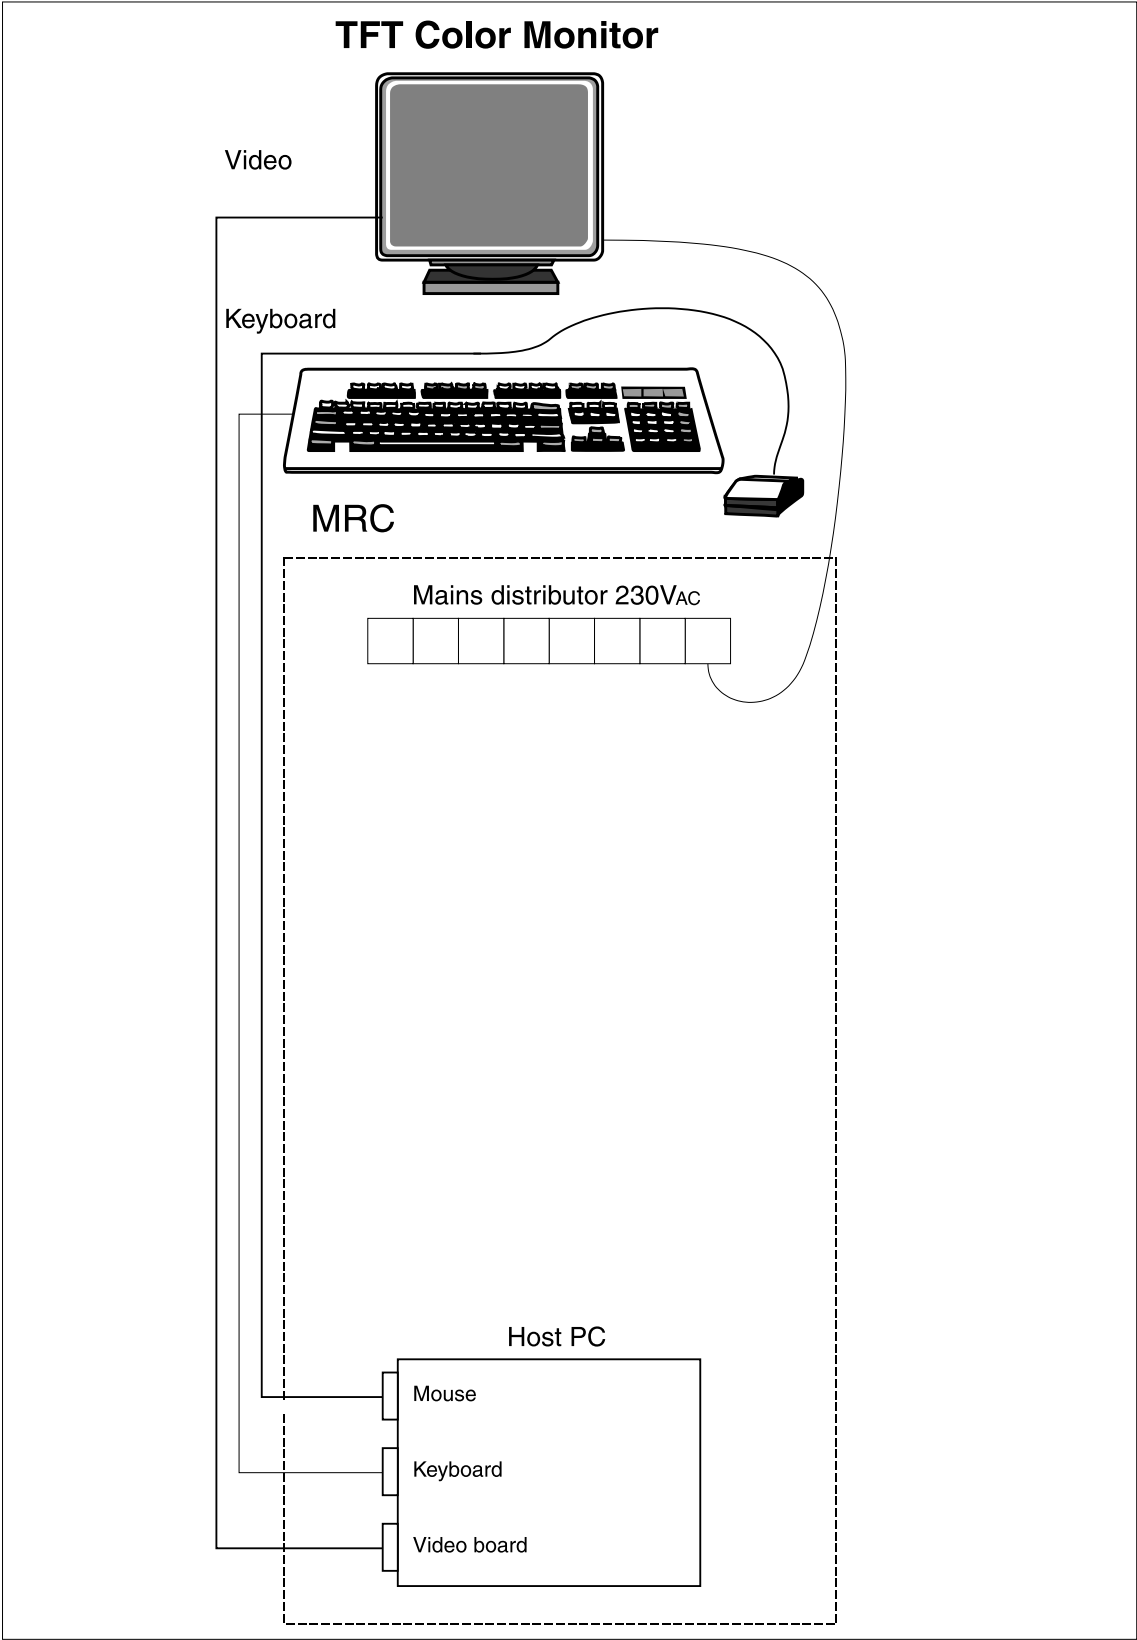
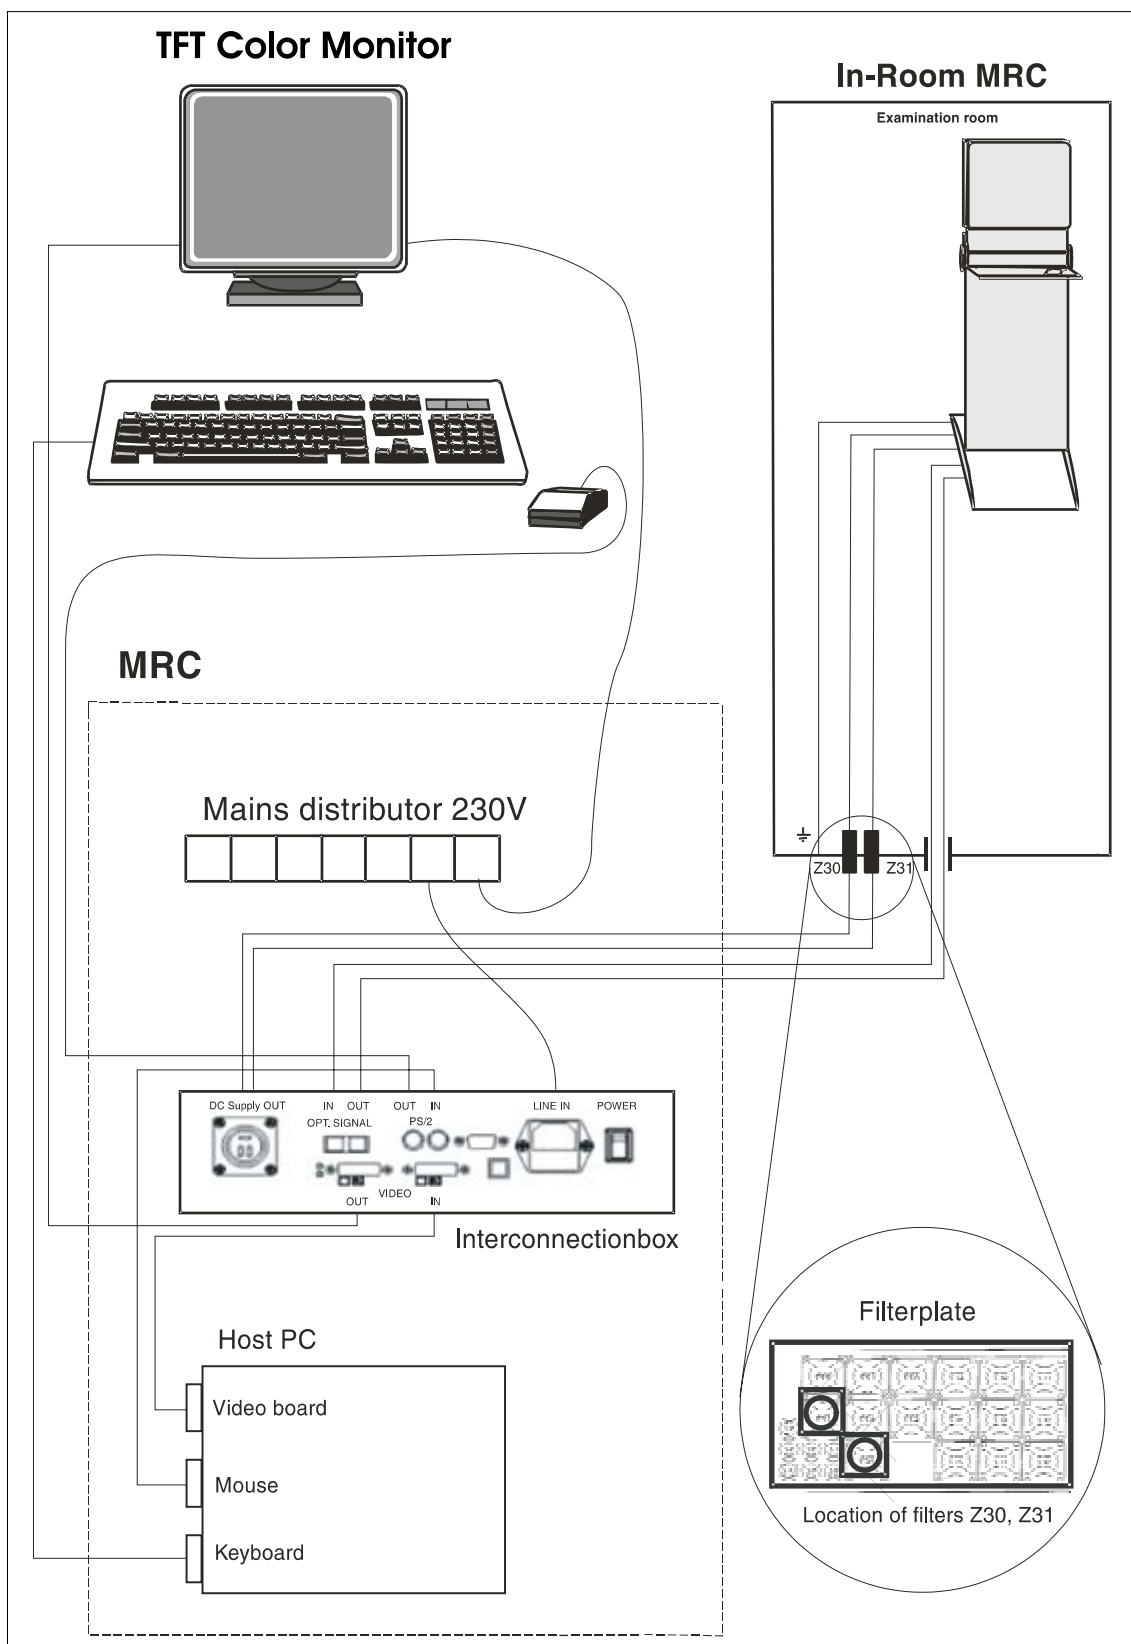

Fig. 48: Cabling for the TFT color monitor
Fig. 51: Cabling with option In-Room MRC
- Option In-Room MRC \(Fig. 51 / p. 72\)
- Route the video cables according \(Fig. 48 / p. 69\) to \(Fig. 51 / p. 72\) of the used monitors.